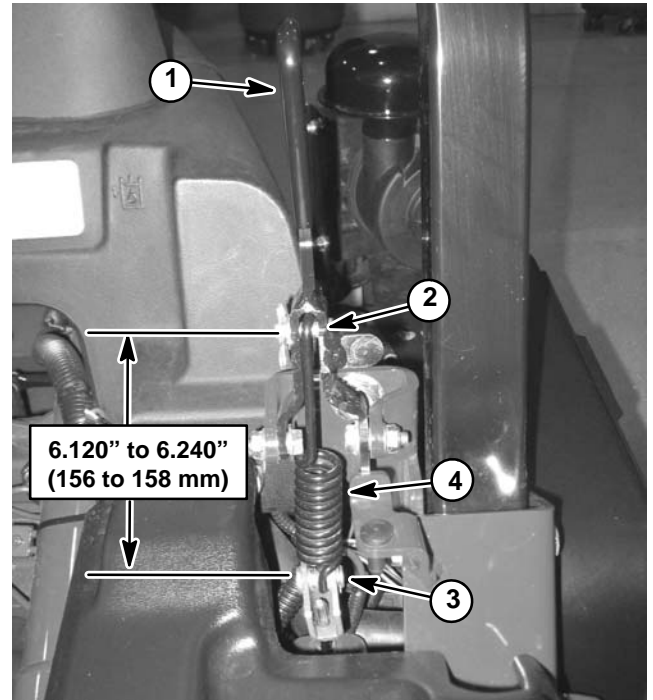

Figure 3
2. With parking brake engaged, measure the distance between the centers of the two (2) pins that secure the brake spring to the brake lever and the equalizer bracket. This distance should be from 6.120" to 6.240" (156 to 158 mm) (Fig. 3).